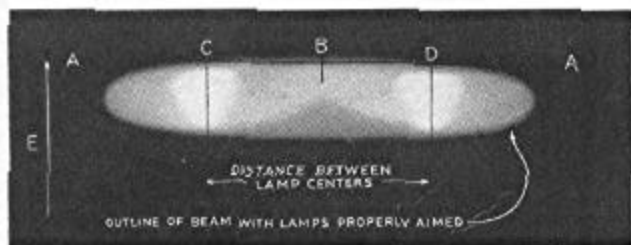

Fig. 3
- 2—Draw a horizontal line (AA), Figure 3, on the wall at a height of $38\frac{1}{8}$ inches above the floor level.
- 3—Sight through the center of rear window and over radiator ornament to the wall to establish line (B), Figure 3, as center line of car projected to wall.
- 4—Measure a distance of $15\frac{1}{4}$ " on each side of line (B) and draw vertical lines (C) and (D) through these points. These lines represent the vertical center lines of the headlamps.
- 6—To adjust headlamp, loosen large headlamp mounting stud on inside of radiator shell by reaching through large opening in top radiator tank shield. Shift headlamp until the pattern on the screen approximates that shown in Figure 3 and re-tighten mounting stud.